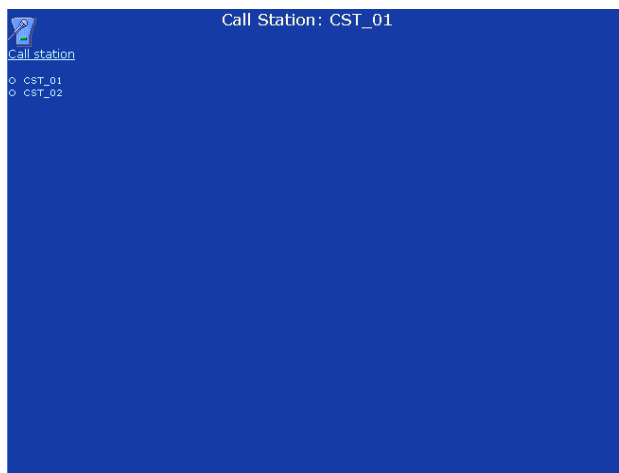

figure 38.28: Zone emergency status, step 1
- 1 Go to *Configure > Action programming > Call station*. A screen similar to the one in figure 38.28 appears in the main frame of the web interface.